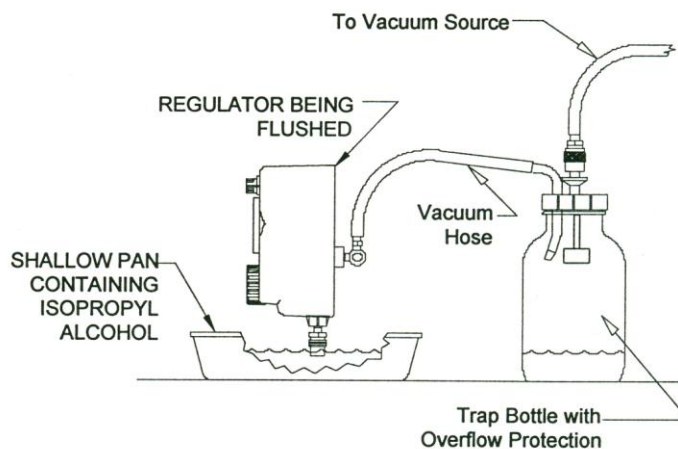

Figure 8
- 6.6.1 Turn the mode selector switch to OFF. Attach two vacuum hoses as shown in Figure 8. The collection bottle will trap the liquid and keep it out of the hospital vacuum system. Place the patient connection of the Vacutron® regulator into a shallow pan containing isopropyl alcohol.